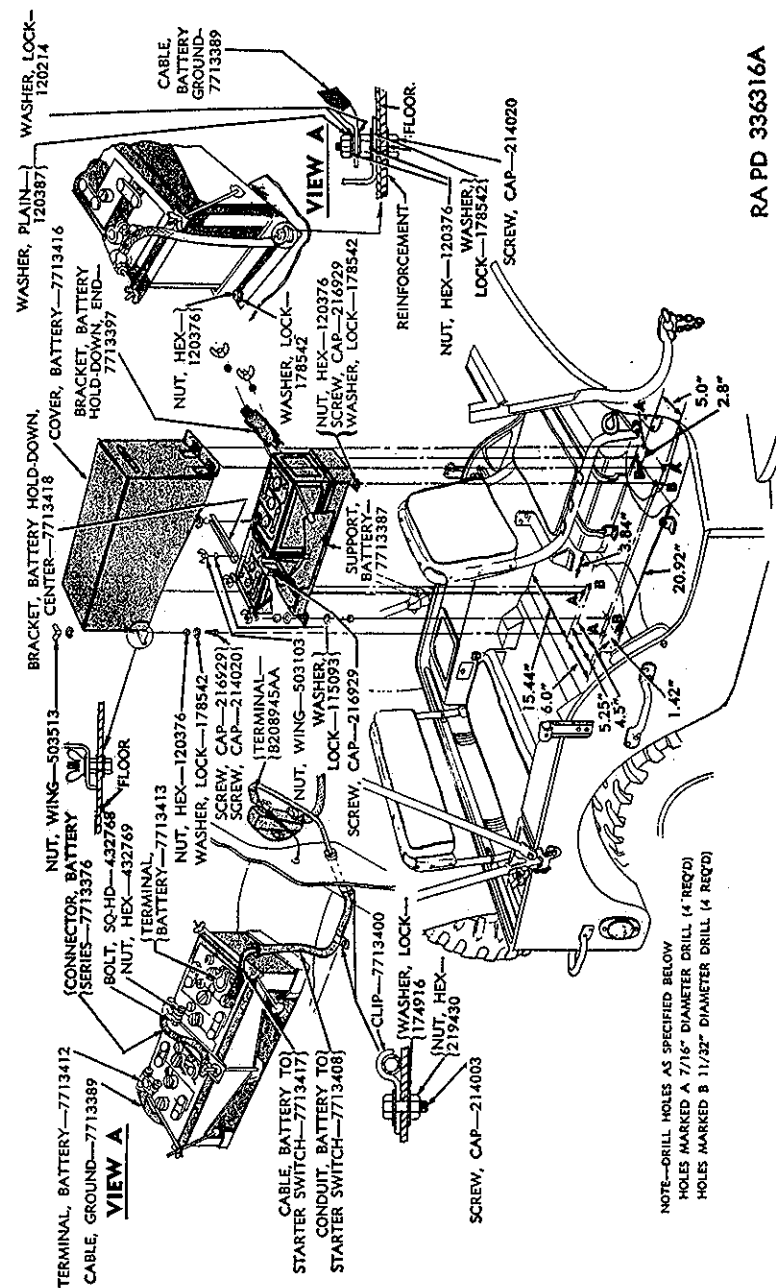

Figure 1. Battery and battery support installation.
(3) Referring to figure 1, drill all necessary holes and install battery support and batteries with bolts, screws, nuts, washers, and terminals provided.
- (23) Referring to figure 1, connect battery ground cable 7713389 and battery to starter switch cable 7713417. Install battery cover 7713416 and reinstall front seats.
- (24) Refill cooling system and check for leaks.